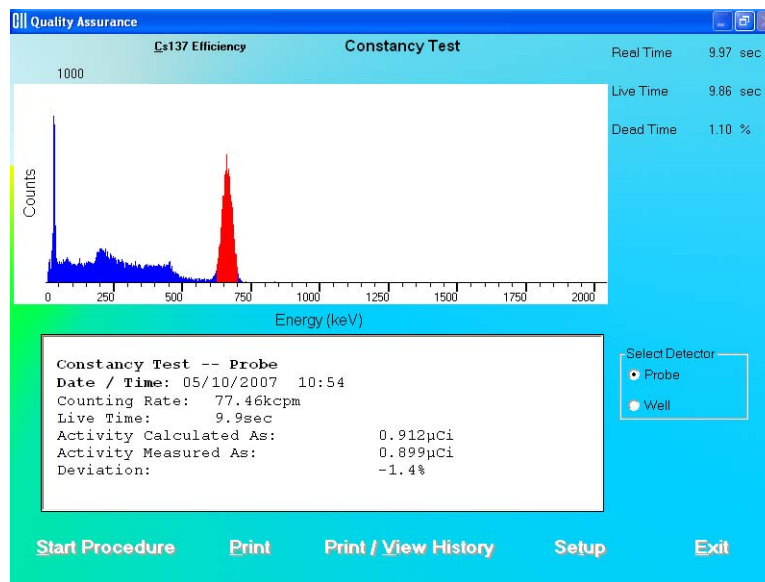

Figure 5-15 Constancy Test Results Screen
9. After the test is completed, the results of the test appear in the box below as shown in Figure 5-15 Constancy Test Results Screen. Note the Deviation value at the bottom.